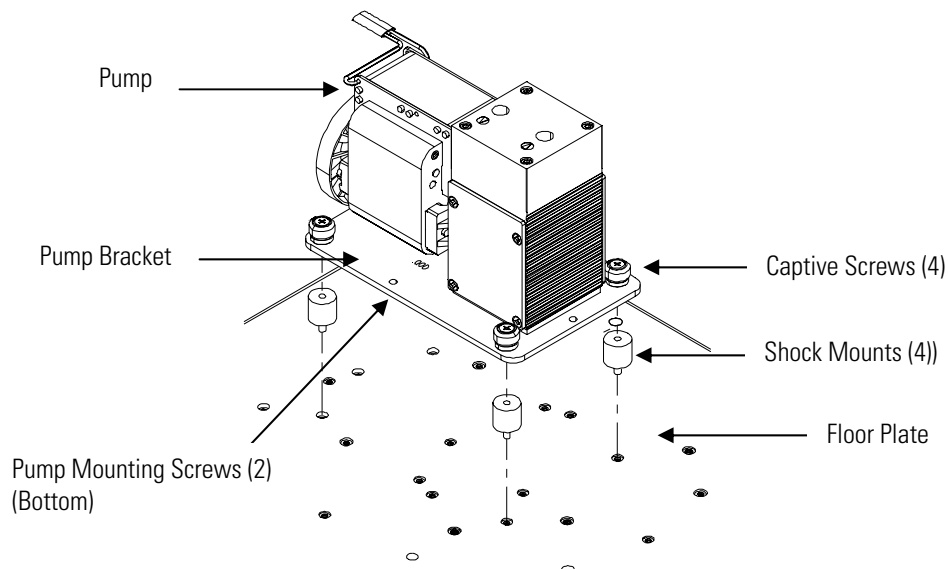

Figure 7–11. Replacing the Pump
Use the following procedure to replace the pressure transducer (Figure 7–12).
2. Disconnect plumbing from the pressure transducer assembly (Figure 7–2). Note the plumbing connections to facilitate reconnection.